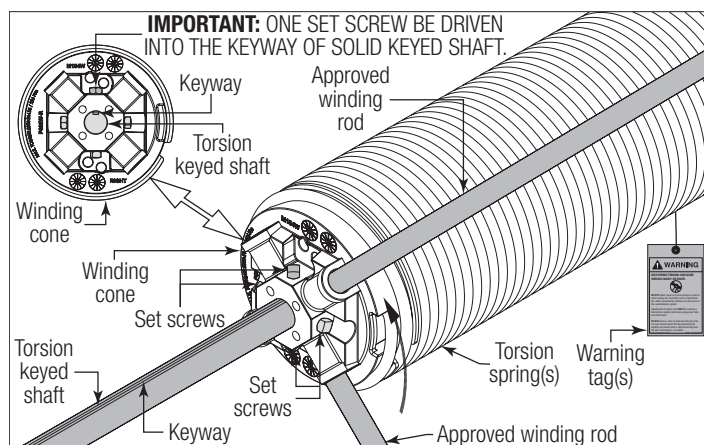

**Figure 36**
**PRIOR TO WINDING THE SPRING, ENSURE YOU'RE WINDING IN THE PROPER DIRECTION AS SHOWN IN FIGURE 36 AND FIGURE 37. OTHERWISE THE SPRING FITTING MAY RELEASE FROM SPRING AND RESULT IN SEVERE OR FATAL INJURY.**